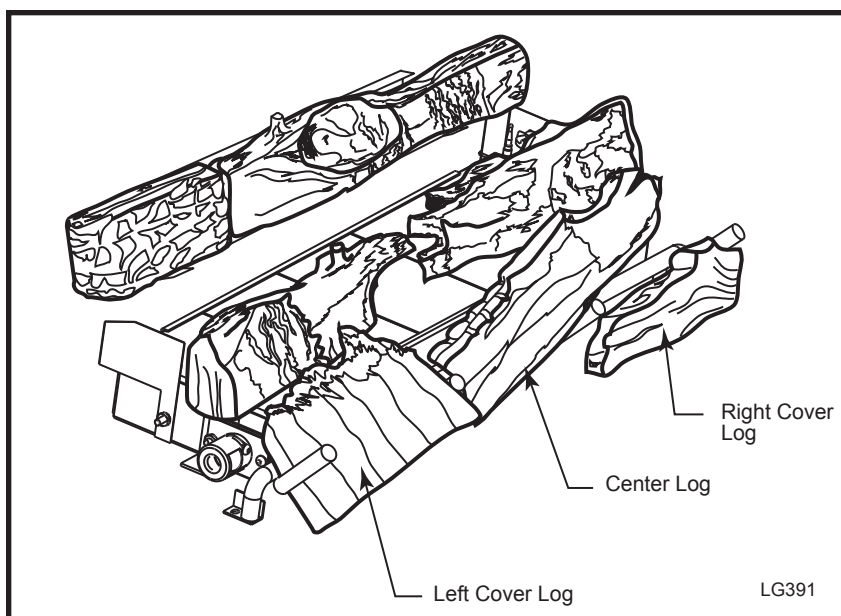

Fig. 52 Place Left and Right Cover Logs and Center Log on grate.
5. Place the front edge of the Left Cover Log on the front top edge of the burner between the last two left tines of the grate. Allow the bottom edge of the log to sit on the hearth. Place the Right Cover Log between the right two tines and rest the log up against the front face of the burner. (Fig. 52)
6. Place the Center Log between the second and third tines as shown. Place the v-notch on the left side of the Center Log against the left tine of the grate. Rest the right side of the Center log up against the face of the Right Log. (fig. 52)